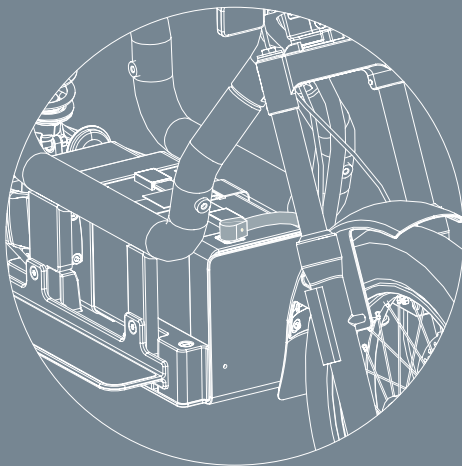

Fig. 10
1. Remove the battery cable from the battery; push the yellow button, then pull the cable upwards, see Fig. 10.